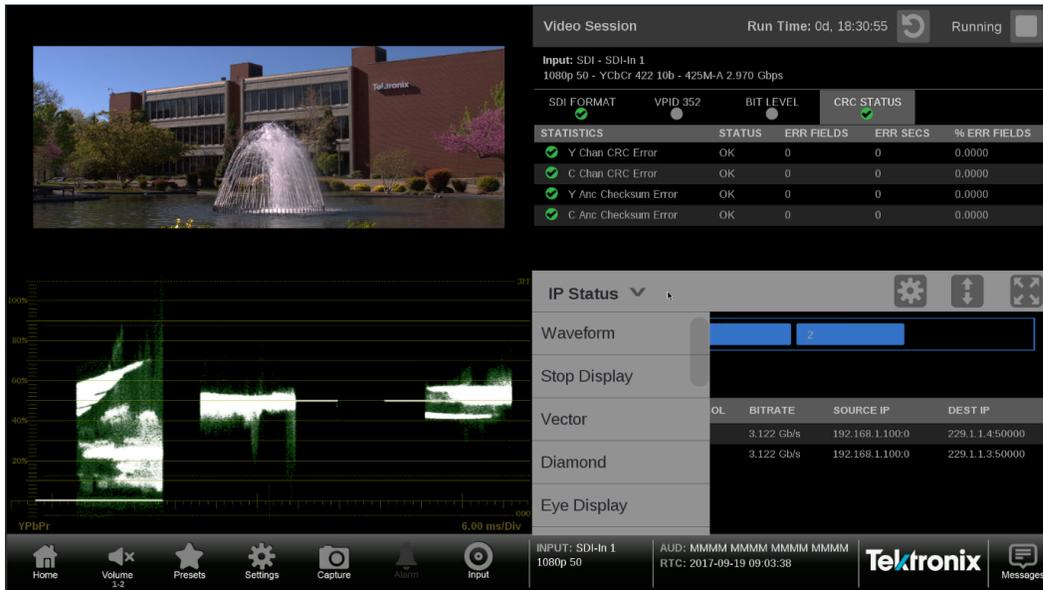

Figure 6: PRISM display in four-tile mode
2. If necessary, touch the menu down arrow to open the list of available applications. (See Figure 6.)